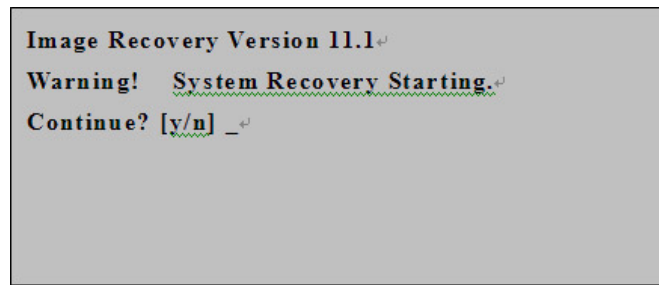

Figure 7.2: Upgrade dialog
1. After saving and exiting BIOS setup, the system automatically reboots. Linux will perform power on self test (POST). Do not press any keys during this process. Wait until the following information in figure 7.2. Type "y" followed by Enter key to continue. Or alternatively, type "forcekill" followed by Enter key to continue.